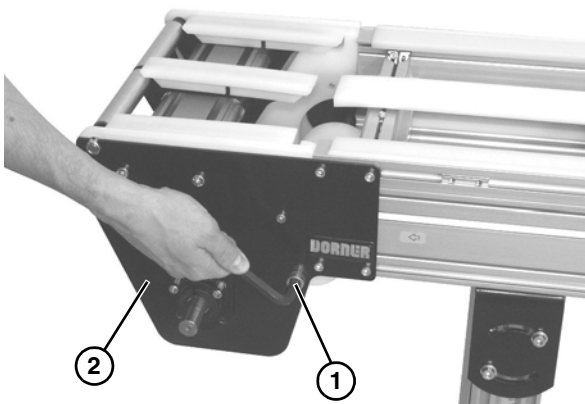

Figure 31
2. Remove socket head bolt (Figure 31, item 1) on each side of drive tail assembly (Figure 31, item 2).